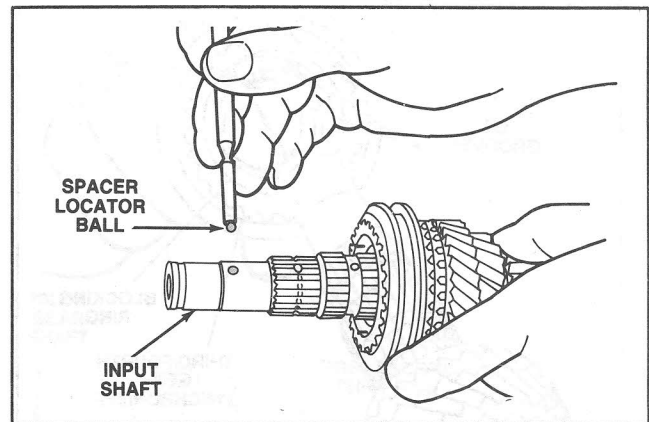

Figure 73 Locator Ball Removal
3. Remove the spacer locator ball from the shaft. (Figure 73).